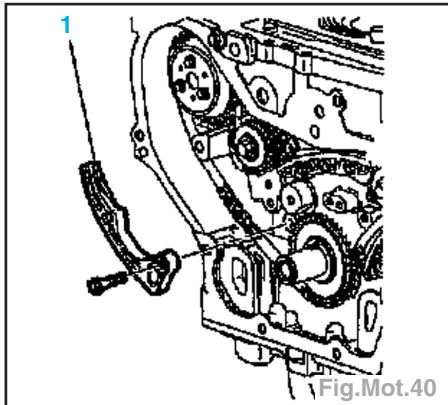

Fig.Mot.40
- le rail de tension (1) (Fig.Mot.40).